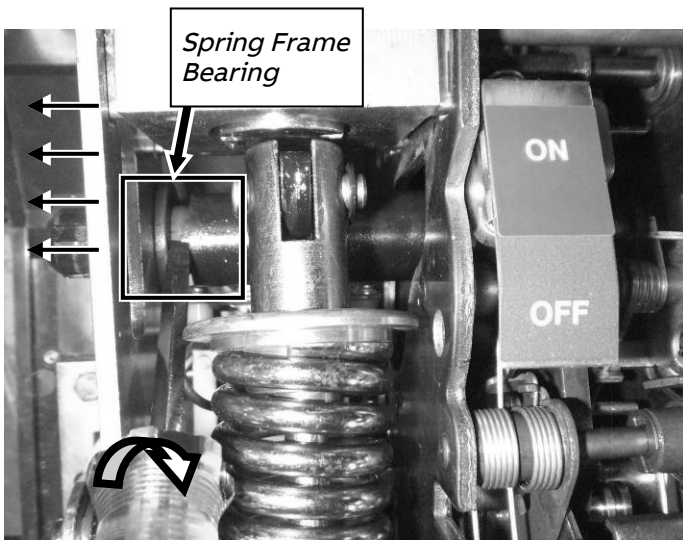
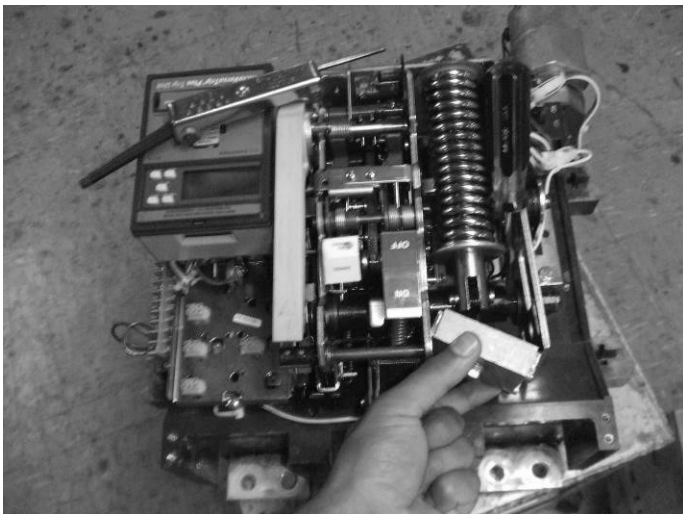

Figure 16: Screwdriver Placement for Deflection of Assembly Wall
Figure 17: Removal of Stop Block Assembly
14. Wedge a flat head screwdriver between the spring frame bearing and shaft and then rotate 90 degrees in order to deflect the left side of the spring assembly wall outward (Figure 16) to allow for the removal of the stop block (Figure 17).